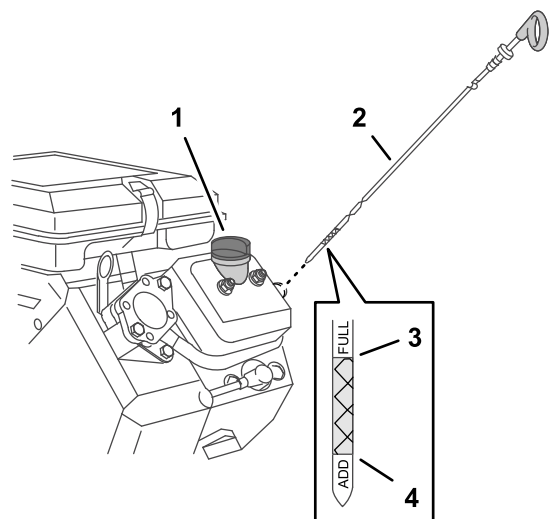

Figure 76
3. Insert the dipstick into the filler neck and tighten the dipstick (Figure 76).
4. Remove the dipstick from the filler neck and look at the oil level in the dipstick (Figure 76).
Note: The engine oil level must cover the hatch-marked area of the dipstick (Figure 76).
5. If the oil level is low, add the specified oil into the engine until the oil level is between the hatch marked areas on the dipstick (Figure 76).
6. Insert the dipstick into the filler neck and hand tighten the dipstick (Figure 76).